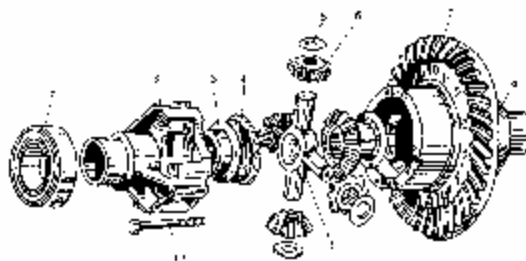

Figure 7-4-3 Differential construction
2. Differential (figure 7-4-3)
- (2) Axle housing
- ①Check axle housing for crack, leakage. Weld if necessary.
②Check axle for deformation
- (3) Wheel hub
- ①Check wheel hubs. Replace them in the event of crack and slip.
②Check hub inner/outer bearing mounting hole necks for wear (figure 7-4-3). If holes are worn so seriously that bearing outer race rings become loosening, one should repair (bore hole, inset bush etc.) or replace them.